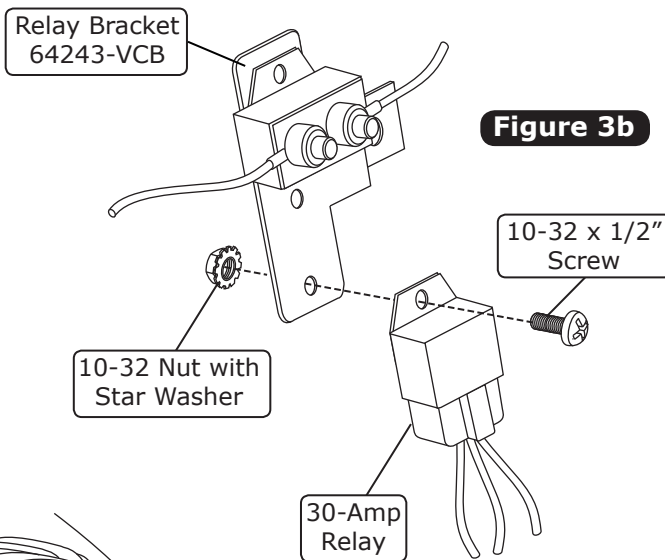

Figure 3b
2. Using a 10-32 x 1/2" screw and a 10-32 nut with star washer, install the 30-amp relay onto the relay bracket as shown in Figure 3b, below.